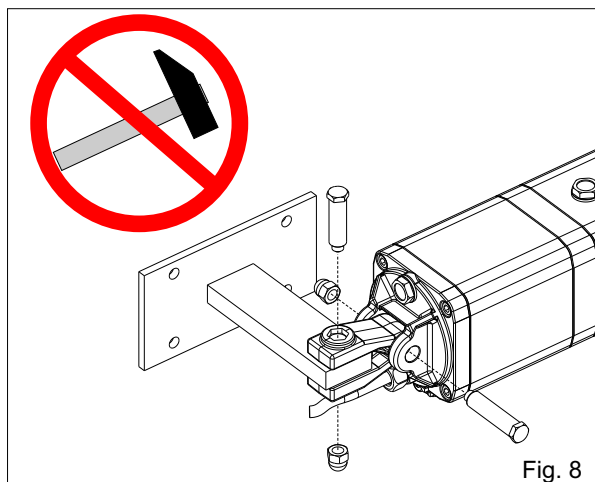

Fig. 8
- Fix the oscillating fork as in fig.8.